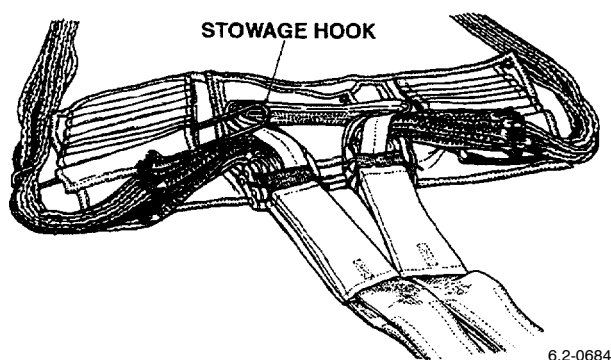

Figure 34. Stowing LH Group of Suspension Lines - Stage 1
e. Route the LH and RH groups of suspension lines outboard along the base of No. 1 LH and No. 1 RH stowage sleeves and outboard of the LH/RH sides of the stowage tray (Figure 34).
f. Insert stowage hook into No. 1 LH stowage sleeve from inboard to outboard (Figure 34).